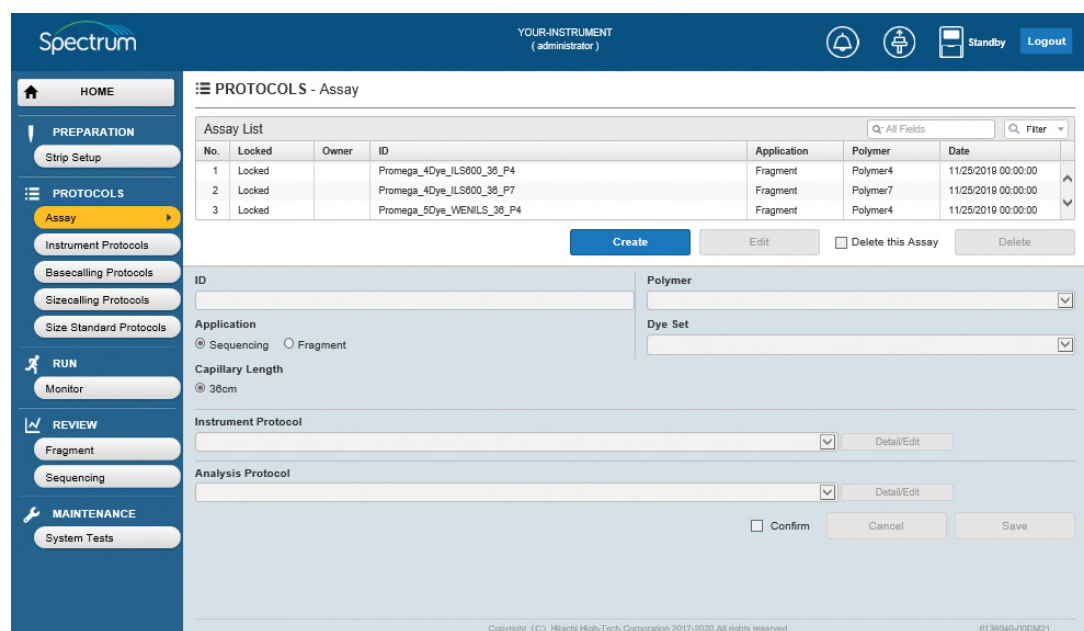
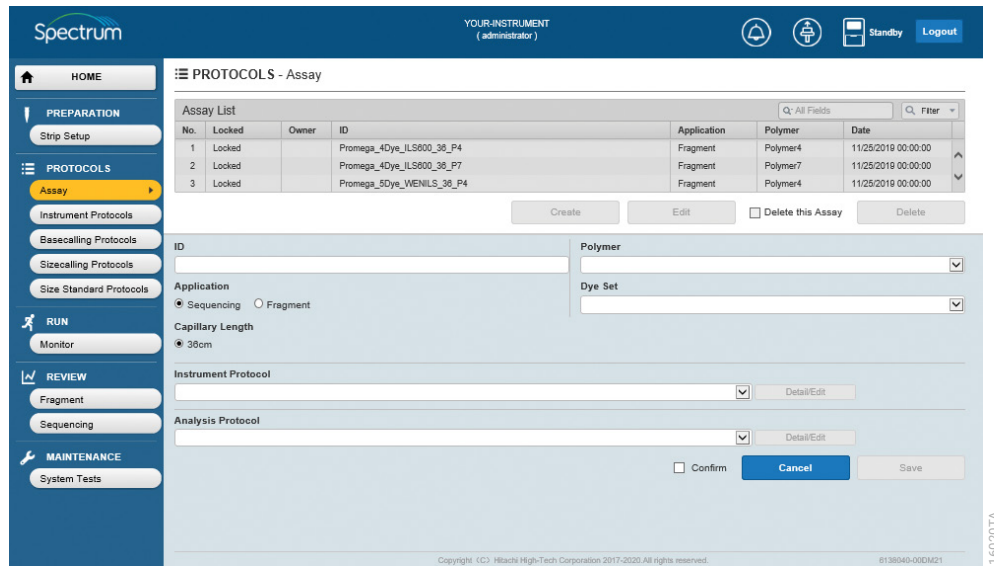

Figure 71. 'Assay' screen.
Figure 72. 'Assay' screen with active fields.
1. Select **Assay** under PROTOCOLS from the Main Menu of the 'HOME' screen (Figure 12), and then select **Create** (Figure 71). This activates the ID field, Application radio button, and the **Polymer, Dye Set, Instrument Protocol**, and **Analysis Protocol** pull-down menus (Figure 72).